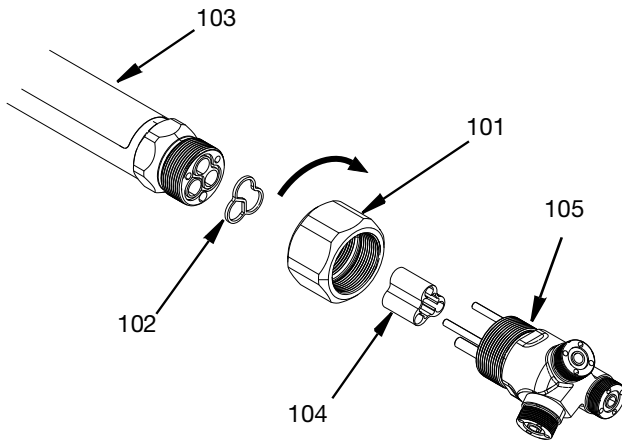

FIG. 29
- Install adapter gasket (102) into the end of the long tube assembly (103). Install valve shut off bearing (104) onto the ball shut off needles (418).
**NOTE:** The open end of the valve shut off bearing (104) must towards the dispensing nozzles.
- Apply anti seize lubricant to the threads of the long tube assembly (103) and the 3 head adapter assembly (105).
- Rest the turnbuckle locking nut (101) on the threaded end of the long tube assembly (503) but do not thread on.
4. Insert the dowel pins of the 3 head adapter assembly (105) into the long tube assembly (103). Turn the turnbuckle nut clockwise as seen facing the swivel housing so that the threads of the long tube assembly (103) and the 3 head adapter assembly (105) engage at the same time. Torque the nut to 75 ft-lb (101.69 N•m). See FIG. 29.